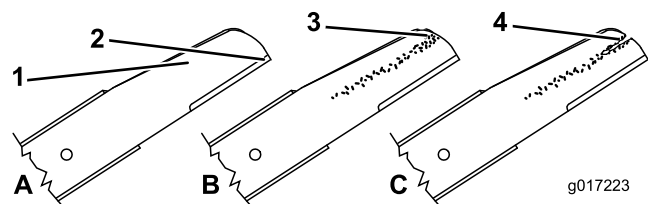

Figure 36
1. Inspect the cutting edges (Figure 36). If the edges are not sharp or have nicks, remove the blades and have them sharpened or replace them.
2. Inspect the blades themselves, especially the curved area (Figure 42). If you notice any damage, wear, or a slot forming in this area (Figure 36), immediately replace them with new blades.